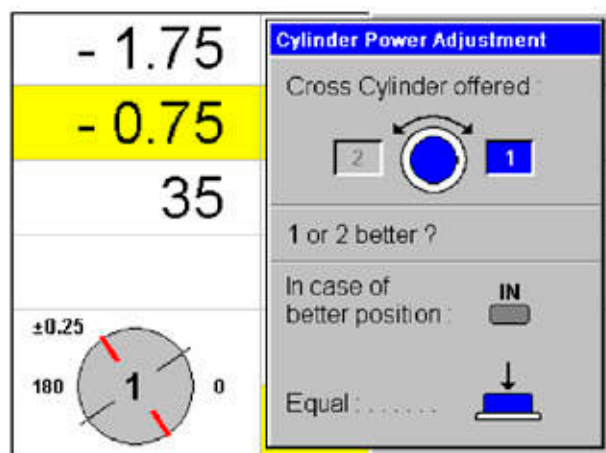

Figure IS-7 Cylinder Power Adjustment
1. Press  and Cylinder Power Adjustment is selected if not done automatically. Refer to Figure IS-7.